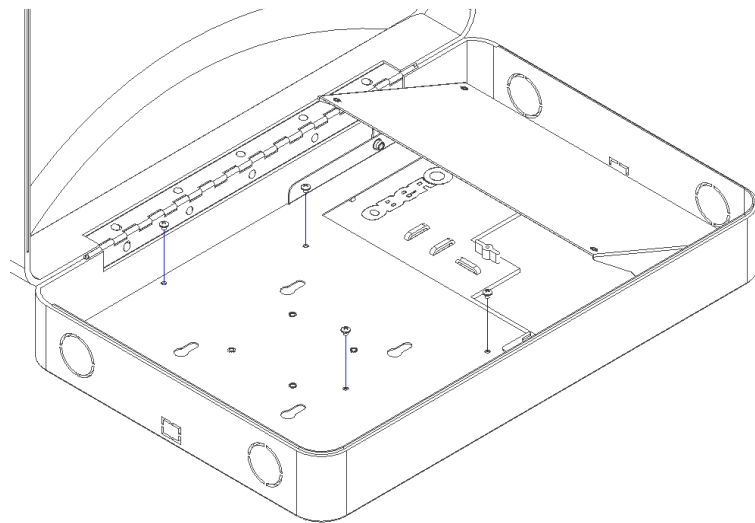

Figure 2 - Antenna Bracket and Mounting Plate Installation
Step 3 – Fasten the Antenna Bracket and Mounting Plate assembly to the 1016 enclosure using the provided #6 Screws (Figure 2).